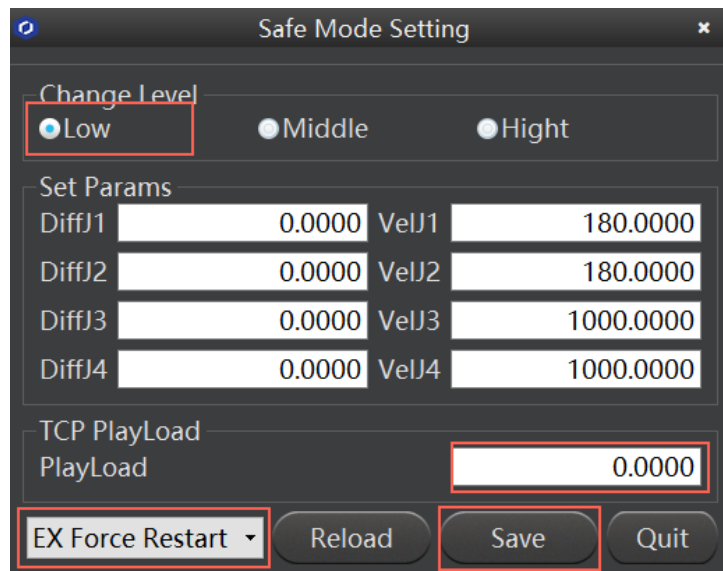

Figure 6.30 Set collision detection parameters
3. Set **Change Level** to **Low**, **PlayLoad** to **0**, select **EX Force Restart** and click **Save**, as shown in Figure 6.30.